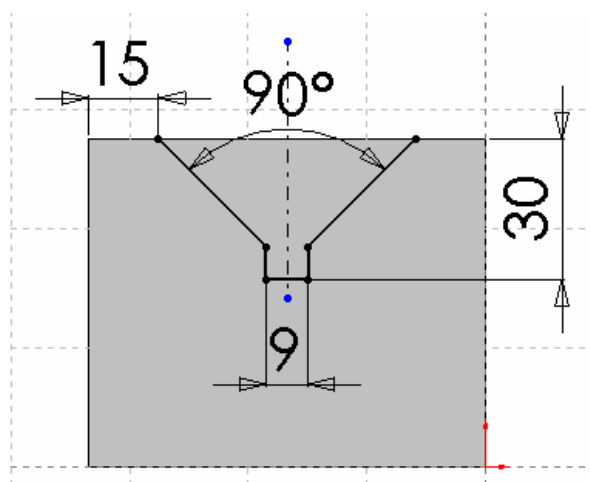

Figure 18 V-Slot dimensions
- 17) Dimension the sketch as shown in Figure 18. The sketch is fully constrained. If not, apply coincident constraints to the two endpoints of the vertical lines with the top edge of the part. You may also drag the end point of the angled line to make it coincident with the top horizontal edge of the part.